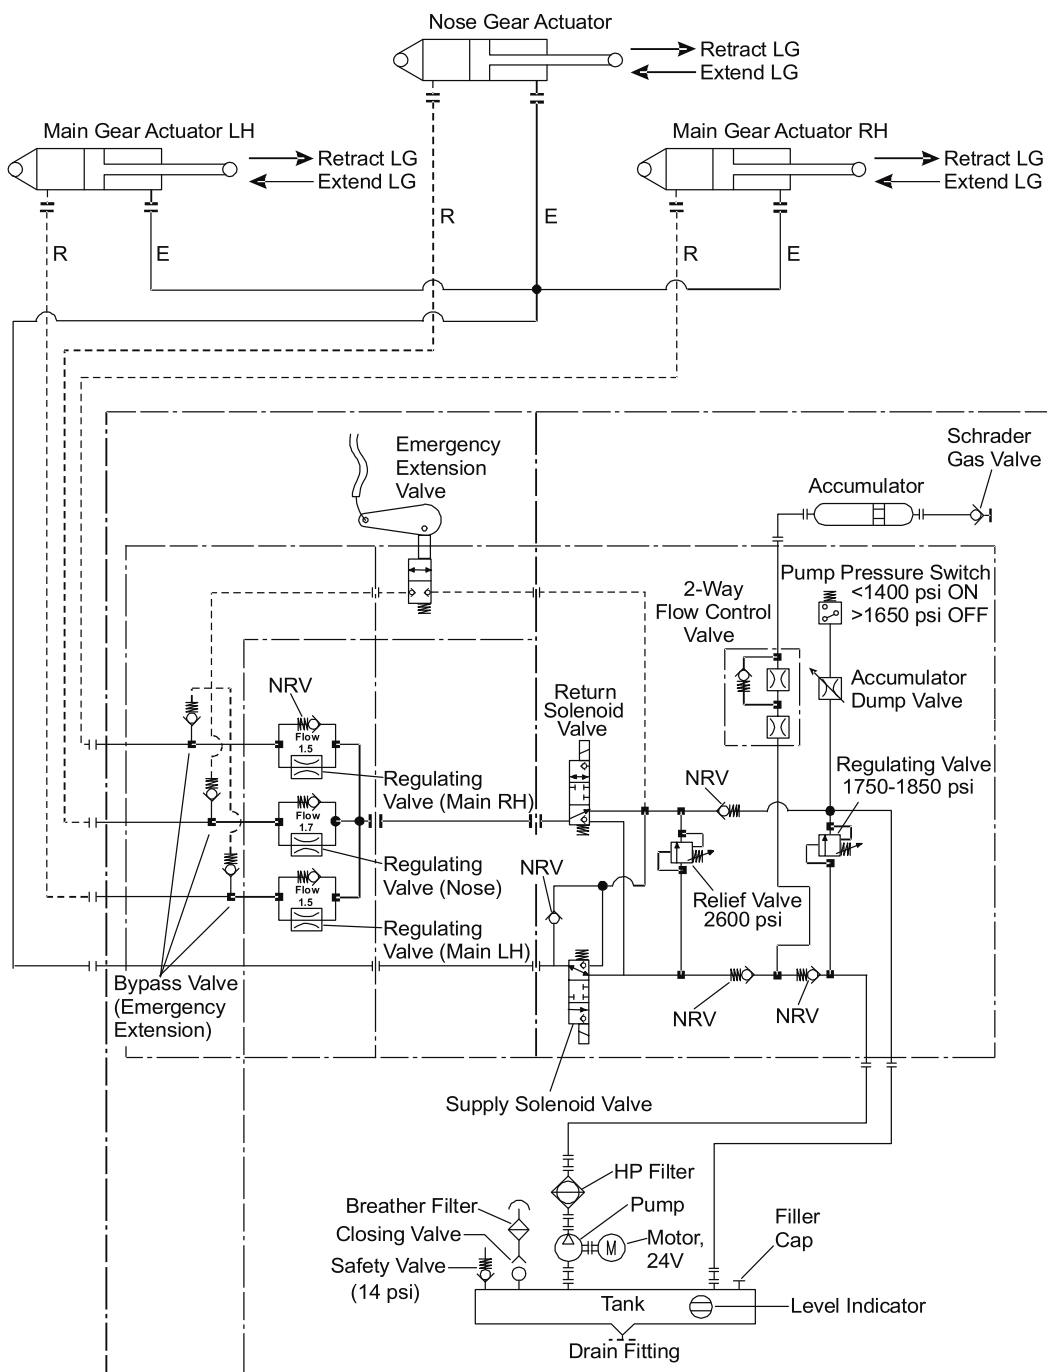

Figure 6 : Hydraulic Schematic Diagram - Normal Extension Operation
- The electrical circuit to the hydraulic pump is closed and the pump will operate if the system pressure is less than 96.5 bar (1400 PSI). The extend solenoid valve de-energizes (Figure 6) and fluid from the hydraulic pump flows through the extend solenoid valve into the extend side of the actuator. The retract solenoid valve de-energizes and allows the hydraulic fluid to flow from the retract side of the actuators, through the regulating valves and back into the reservoir.